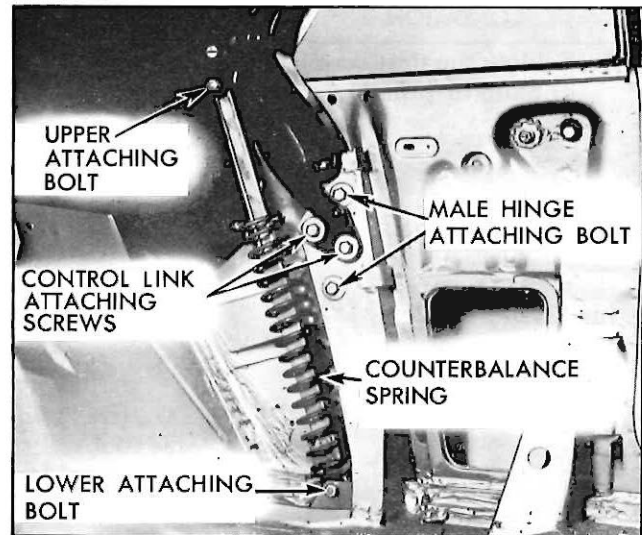

Fig. 5—Top Lift and Linkage Attachment at Rear Quarter
- b. Loosen two bolts securing control link adjusting plate sufficiently to permit adjustment of plate (fig. 5).
- b. Loosen male hinge assembly and control link attaching bolts (fig. 5).
3. Remove upper and lower attaching bolts; then remove lift assembly from body (fig. 5).